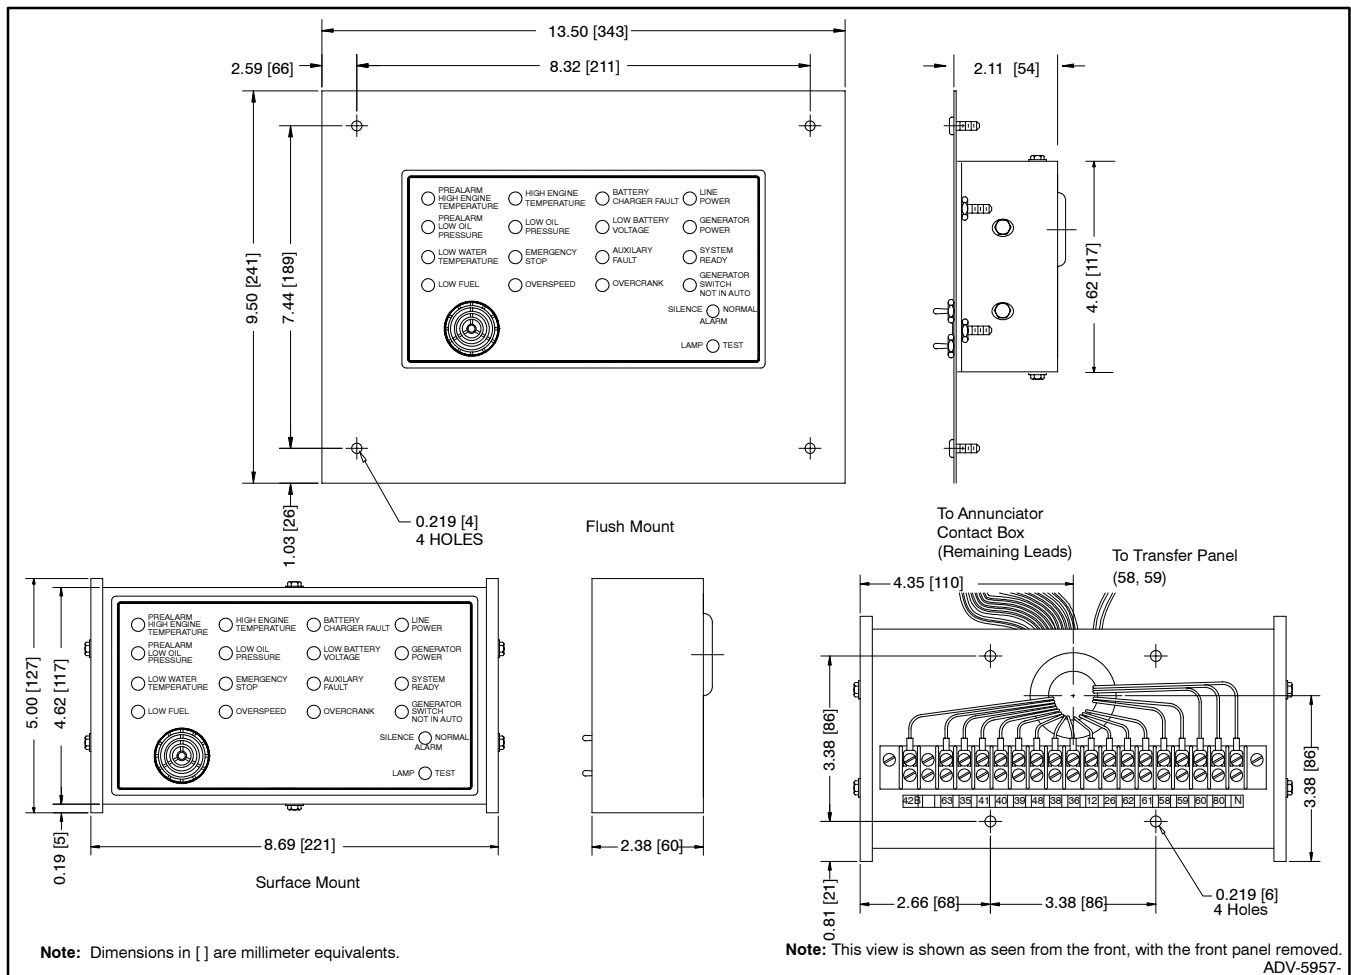

Figure 11 Component Dimensions
- 6.1 Select a visible location for mounting the remote annunciator panel up to 305 m (1000 ft.) from the controller. Install the remote annunciator panel, either surface- or flush-mounted, in a location easily observable by operating personnel at their work stations. See Figure 11 for remote annunciator and mounting hole dimensions.
- 6.2.4 Mount the remote annunciator back panel to the wall or to the electrical box in the wall. See Figure 11 for the mounting hole dimensions. Protect the remote annunciator from dust and debris when drilling the holes.